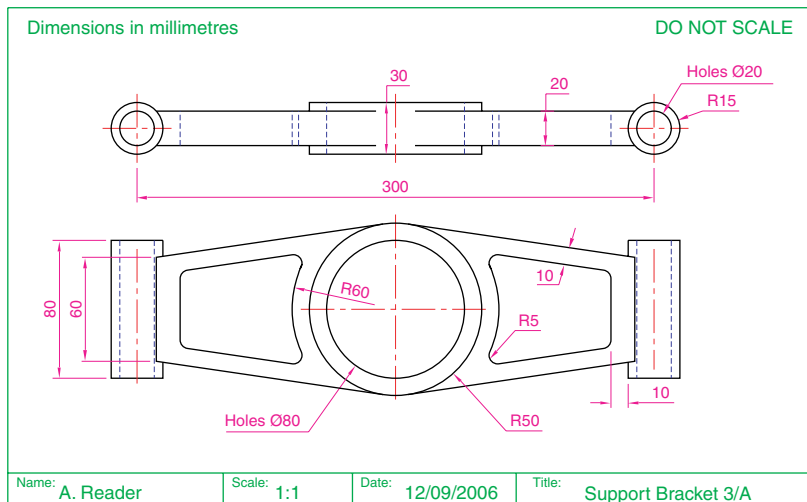

Fig. 14.8 Working drawing for the second example
2. In the **Top** viewport construct an outline of the web of the Support Bracket shown in Fig. 14.8. With the **Extrude** tool, extrude the parts of the web to a height of **20**.